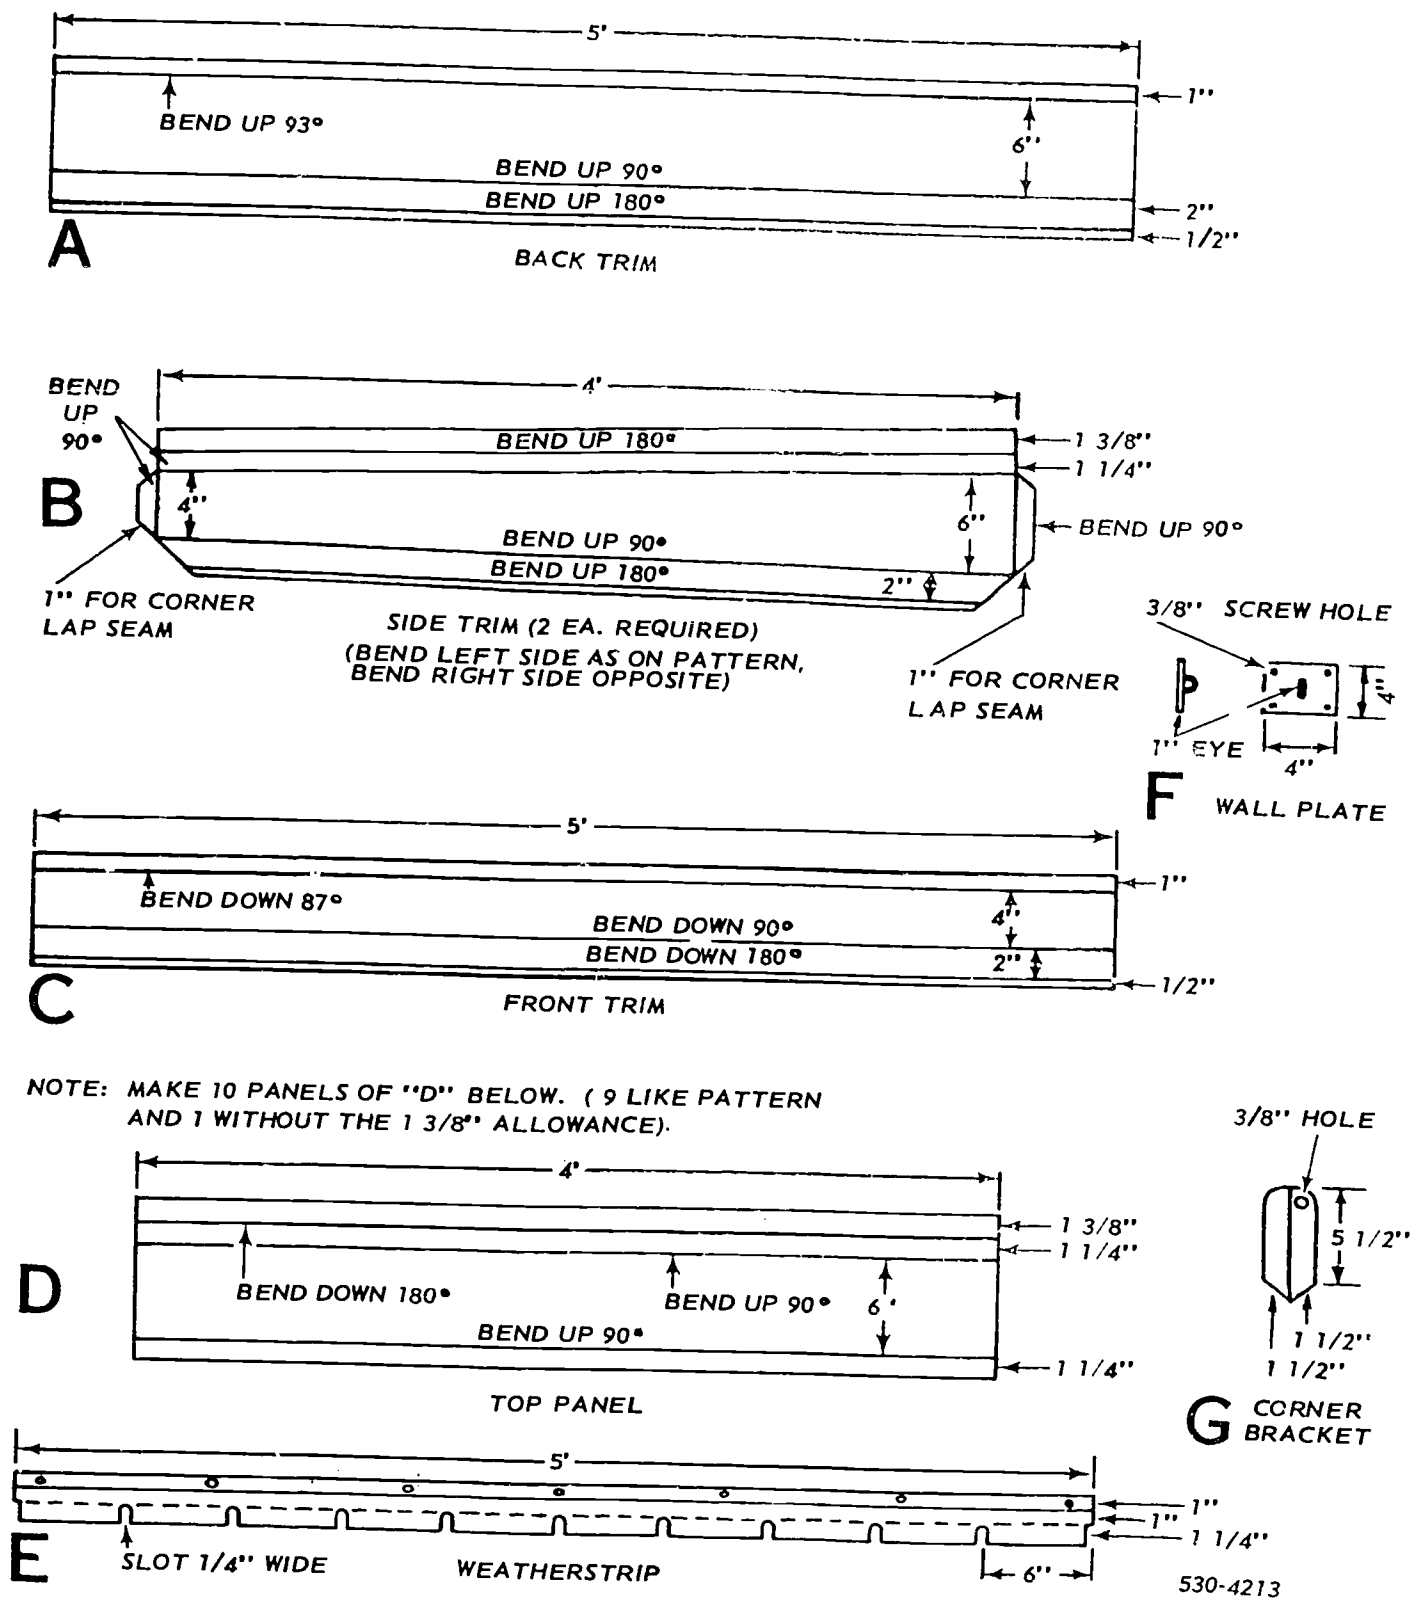

Figure 2-4. Patterns for a metal canopy supported by hangers.
**Pattern Layout.** The shape of the back trim is shown in the detail view at the left side in figure 2-3. Pattern layout for the canopy involves developing patterns like the ones shown in figure 2-4. The back trim pattern in view A is made 9 inches wide plus allowance for a  $\frac{1}{2}$ -inch hem.
The two side patterns (view B of fig. 2-4) are developed so that the face of the trim will be 6 inches wide at the back and 4 inches wide at the front. Notice that each end has 1 inch for the corner lap seams. The bottom edge has an allowance for a  $\frac{1}{2}$ -inch hem, and the top edge has an allowance for the pocket of a  $1\frac{1}{4}$ -inch standing seam.
The front trim pattern shown in view C of figure 2-4 has a face 4 inches wide, and allowances for a 1/2-inch hem on the bottom edge and 1 inch on the top edge, for fastening to the top panels.
The pattern for the nine top panels in view D of figure 2-4 is 6 inches wide, plus allowances for the pocket of a 1 1/4-inch standing seam on one edge and the flange for a 1 1/4-inch standing seam on the other edge. Notice the instructions with the patterns.
The weatherstrip in view E of figure 2-4 is made into
a Z-shape that measures 1" x 1" x 1 1/4," and is 5 feet long. The 1 1/4-inch allowance has slots 1/4-inch wide and 1/4-inches long, cut at 6-inch intervals. The wall plate (view F of fig. 2-4) is 4 inches square and 1/4 inch thick. It has an eye (a loop) to receive the hook-shaped end of the hanger rod. The eye is welded to the plate, and four 5/16-inch screw holes are drilled for 1/4-inch screws. The corner brackets (G in fig. 2-4) are made of 1/8" x 1 1/2" x 1 1/2" angle iron, 5 inches long, with a 3/8-inch hole for the 1/4-inch hanger rod.
**Cutting and Notching.** You can cut and notch patterns A through D (fig. 2-4) on the squaring shears and with straight cut snips. Cut pattern E with the squaring shears, and notch it with straight snips; make the slots by using the rotary punch and the straight snips.
The corner brackets and wall plates (view G and F of fig. 2-4) are made in the shop. The straight cuts are made with the horizontal bandsaw, power hacksaw, or hand hacksaw. The rounded end of the corner bracket is cut on the throatless shears, and is filed smooth; then the holes are drilled. The  $\frac{3}{8}$ -inch hole should be drilled at least 1  $\frac{1}{4}$  inches from the top edge. Remember to make two wall plates, and right and left corner brackets. The eye of the wall plate is made by welding a piece of  $\frac{1}{4}$ -inch rod (bent into a U-shape) to the plate. The eye should be approximately 1 inch in diameter.
Once the screws are removed, slip the old panel out of the standing seams. Make a replacement panel like the one shown in view D of figure 2-4. Place the new panel into position and connect the standing seams. After the new panel is in place, drill the holes for fastening to the flanges of the back and front trip pieces. Replace the rivets that were drilled out of the standing seam. Since the weatherstrip has been removed, remove the old calking and apply new calking. Then position and refasten the weatherstrip to the wall.